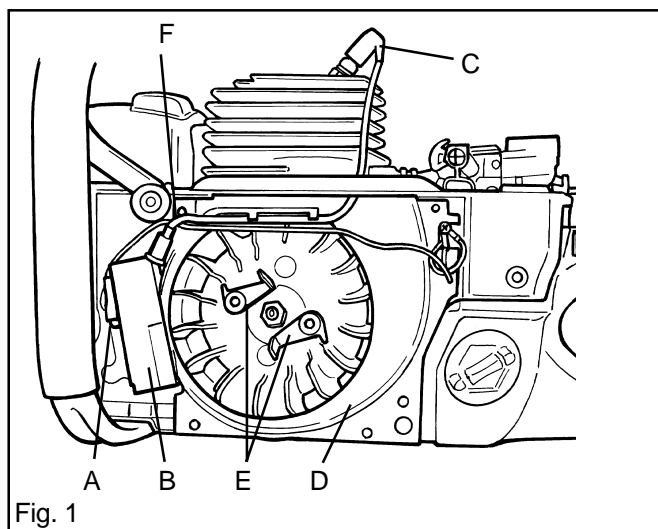

Fig. 1
5. Undo and remove the two pawls (E) for the recoil starter. See fig. 1.